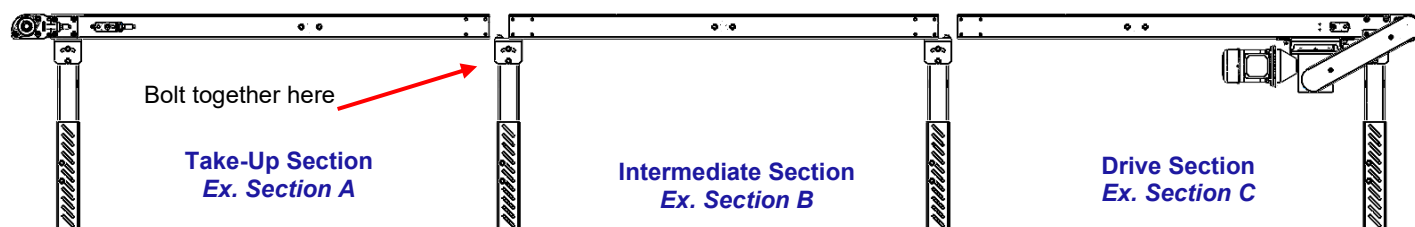

Figure 2.3 - Section Set-Up
- Supports should be located at ends of conveyor and centered under each splice on multi-section conveyors (nominal 10 ft centers). See *Figure 2.3* in *Section 2-3*.